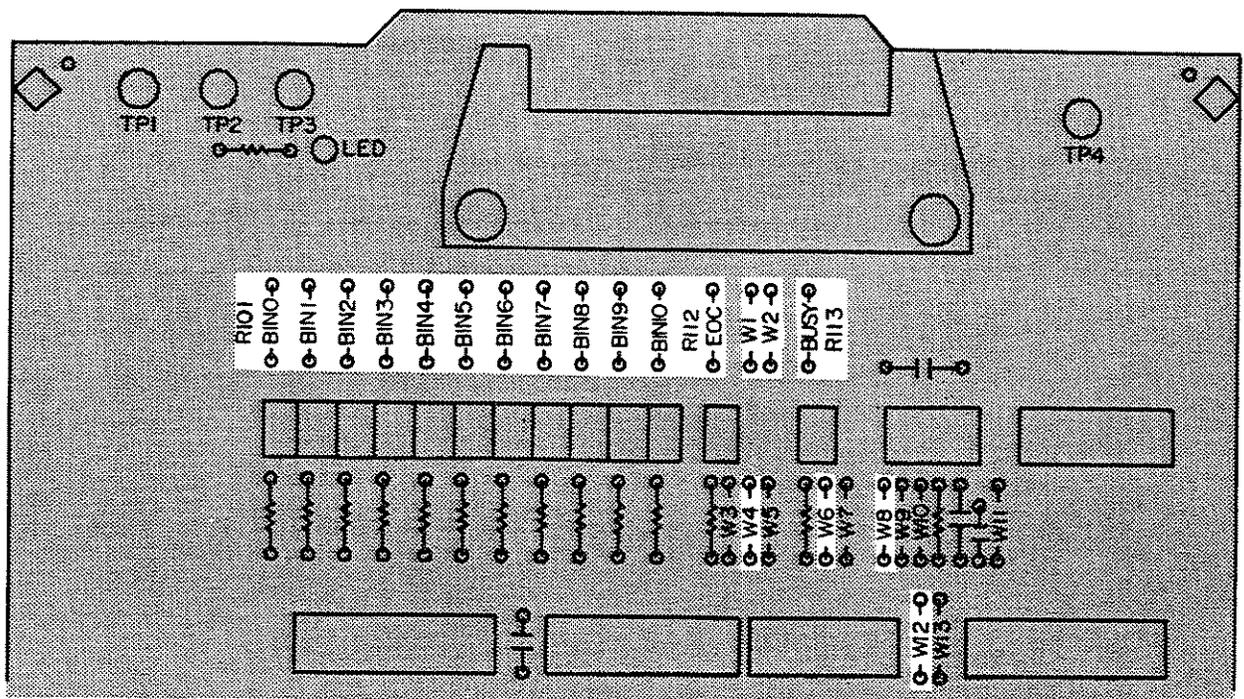

Figure 3-9. Palomar M11 Jumper and Pull-up Resistor Locations
2. Configure the following interface signals by installing the jumpers as shown in Figure 3-9.
3. All I/O signals are TTL level so you must install all pull-up resistors to +5 V (install pull-up resistors R101 - R113). Refer to Figure 3-9 for the pull-up resistor locations.
4. Bring + 5V out through pins 12 and 17 of the handler interface rear panel connector (install a jumper at W1 for +5 V and at W2 for the COMMON connection). Refer to Figure 3-9 for the locations of W1 and W2.